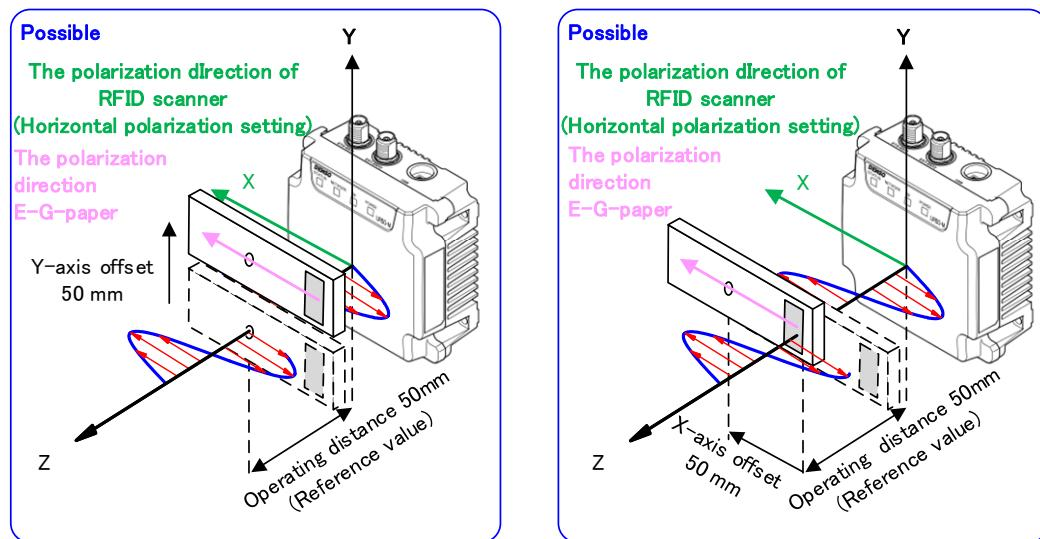

Figure 7.8 An Example of Arrangement that E-G-Paper is Offset
- If the E-G-Paper is moved away from the Z-axis, make it closer in the same distance to RFID scanner, then it will be possible to communicate. Figure 7.8.